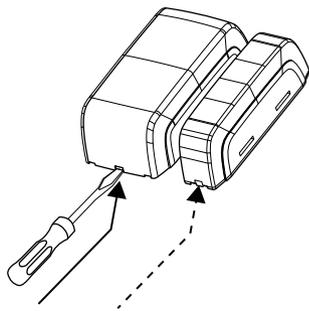

Figure 4: Decorative cover removal
1. Insert a flat-head screwdriver into the slot provided and push upward to remove the decorative cover. See Figure 4.